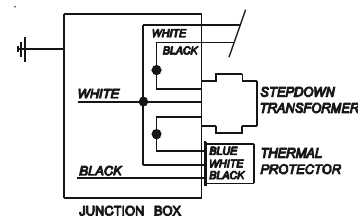

FIG.8
**For 347V step down transformer models:** (Fig.8)